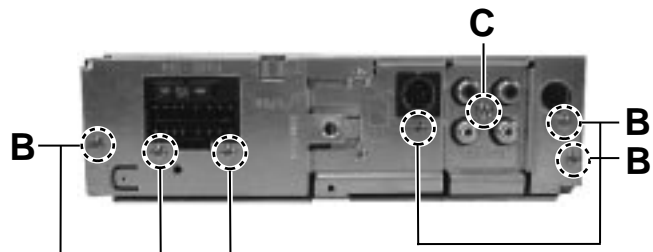

Fig. 6
■ Removing the rear panel (See Fig.6)